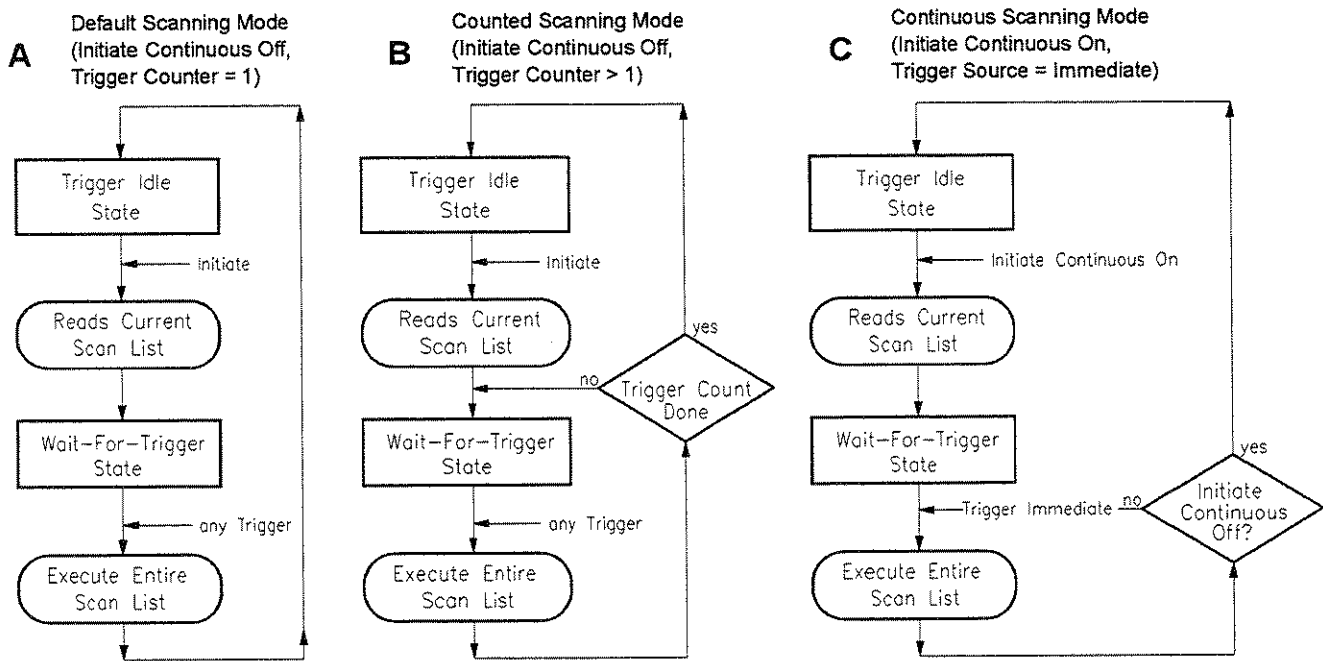

Figure 4-4. Scanning Modes
- The "Default Mode" is set when INITiate:CONTinuous is set to OFF, and the TRIGger:COUNT is set to 1. Power-on and the *RST command also set this mode. The sequence of events for this mode is shown in Figure 4-4 A. Note that starting at the trigger idle state, you must execute an INITiate command to begin each scan. The sequence also shows that the current scan list (as set by ROUTe:SCAN <scan_list>) becomes effective after the INITiate command.
- The "Counted Mode" is set when INITiate:CONTinuous is set to OFF, and the TRIGger:COUNT is set greater than 1. In this mode, a single INITiate command will allow as many scans as TRIGger:COUNT specifies. Note that TRIGger:COUNT can be from 2 to 32768 or INFINITY. The sequence of events for this mode is shown in Figure 4-4 B. The sequence shows that the current scan list is only set at the start of the counted scan. This means that the current scan list can not be changed while the module is scanning. However, by specifying LISTL as the current scan list before INITiate:CONTinuous ON, the sequence of scan lists specified in LISTL will be executed.
- The "Continuous Mode" is set when TRIGGER:SOURCE is set to IMMEDIATE, and INITIATE:CONTINUOUS is set to ON. Note that executing INITIATE:CONTINUOUS ON not only sets the Continuous Mode but also initiates the module. To stop at the end of the current scan, execute the INITIATE:CONTINUOUS OFF command. The sequence of events for this mode is shown in Figure 4-4 C. The sequence shows that the current scan list is not read while the module is scanning. This means that the current scan list cannot be changed "on-the-fly". However, by specifying LISTL as the current scan list before INITIATE:CONTINUOUS ON, the sequence of scan lists specified in LISTL will be executed. This mode is the fastest since the module does not need to read the current scan list or check for the occurrence of a trigger event.